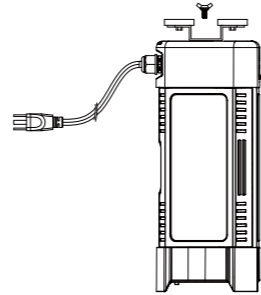
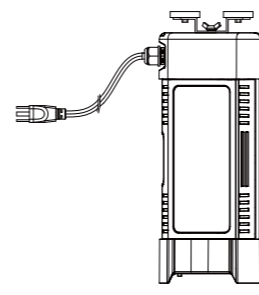

Figure 9
Figure 10
1. Tighten the magnet bracket on the lamp base with butterfly screw. (Figure 9) (Figure10).